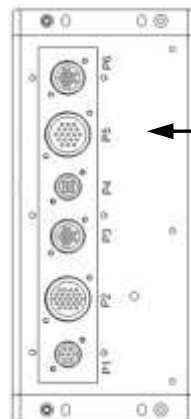

Figure 6.11.1-1: Removing Shell Harness Cable from P5 Connector on Rear Panel
2. Remove the Shell Harness Cable (male) connector from the P-5 (female) connector on the rear panel of the Edge Controller (see Figure 6.11.1-1).